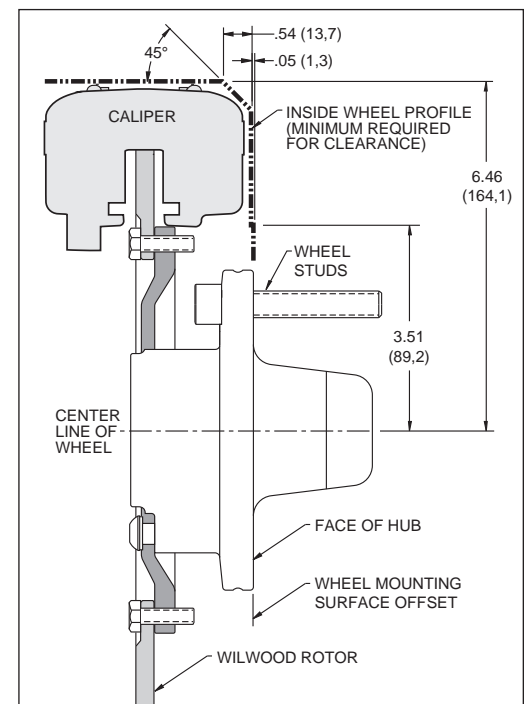
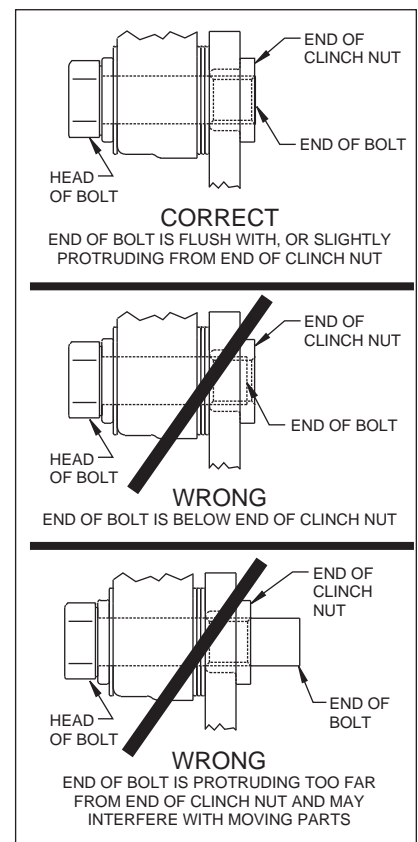

Figure 1. Wheel Clearance Diagram
Figure 5.
- Review the wheel clearance diagram (figure 1, page 3) to verify that there is adequate clearance with the wheels you will be using with the installation.
• Verify wheel clearance using figure 1.
•Mount the adapter/rotor assembly (7/8) to the hub (4) using bolts (10) (finger tight), as shown in Figure 1. Using an alternating sequence, remove bolts one at a time, apply red *Loctite*® 271 to the threads, and torque to 55 ft-lb.
•Pack the small outer bearing cone (11) with high temperature disc brake bearing grease and install into front of hub (4). Slide the hub/rotor assembly (4 and 8) with outer bearing cone (11) onto the spindle. Secure using stock spindle washer, adjusting nut and nut locking device. Adjust bearings per Original Equipment Manufacturer (OEM) specifications.
•Install the o-ring (12) and the dust cap (13) onto the hub (4). Friction created by the o-ring (12) on the dust cap (13) keeps it from unscrewing.
•**NOTE:** Please reference the caution statement at the beginning of the assembly instructions. Mount the caliper (14) onto the caliper bracket (1) using washers (15) and bolts (16). View the rotor (8) through the top opening of the caliper (14). The rotor (8) should be aligned in the center of the caliper (14). If not, adjust the caliper (14) by using 0.032 inch thick shims (17) placed between the caliper mounting bracket (1) and the caliper (14). Finger tighten and recheck alignment. Use as many shim washers (17) as necessary to achieve the correct alignment. **NOTE:** The end of the bolt must be flush with or slightly protruding from the head of the clinch nut. See Figure 5. Place spare shims (17) between washer and caliper mounting ear to achieve the proper mounting fastener configuration. Always use the same amount of shims on both the top and bottom caliper mounting bolts (16). Apply red *Loctite*® 271 to bolt threads (16) and torque to 40 ft-lb. Caliper mount bolts may be safety wired for additional security.
•Install the disc brake pads (18) and secure using cotter pin (19).